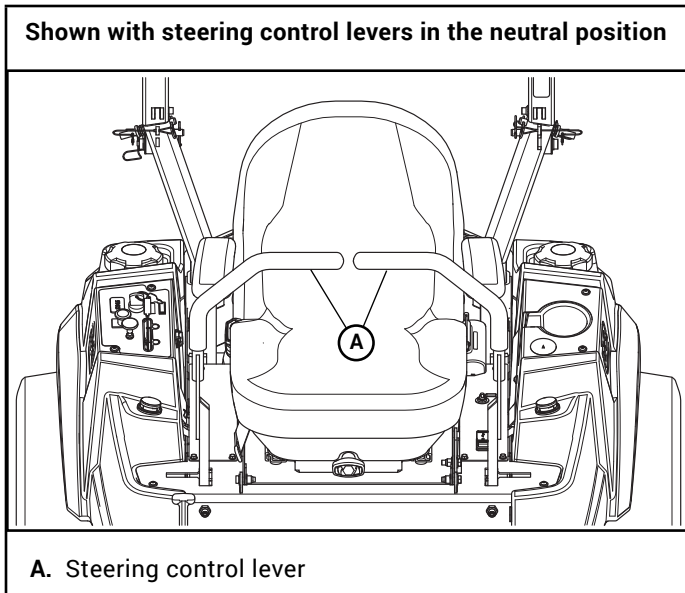
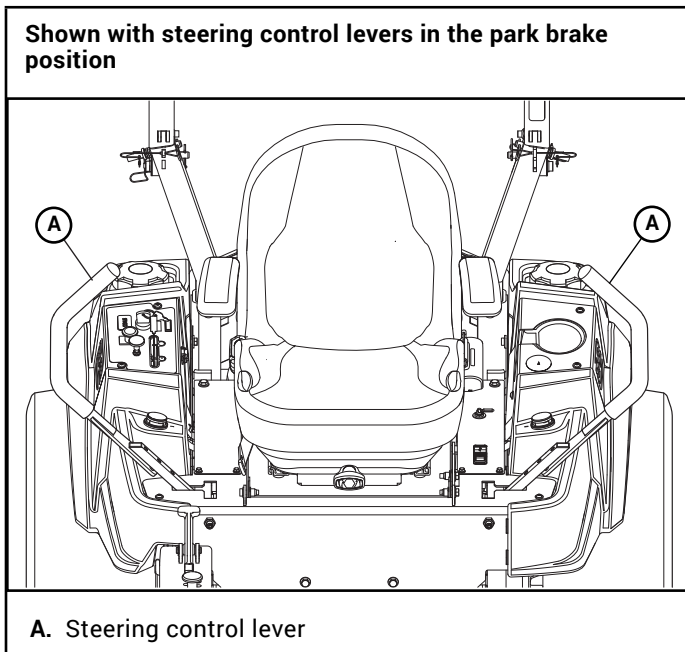

Figure 3-3
Figure 3-4
- A. **Steering control levers (Figure 3-3 & Figure 3-4)** – these levers control the mower’s speed, direction, stopping, and park brake.